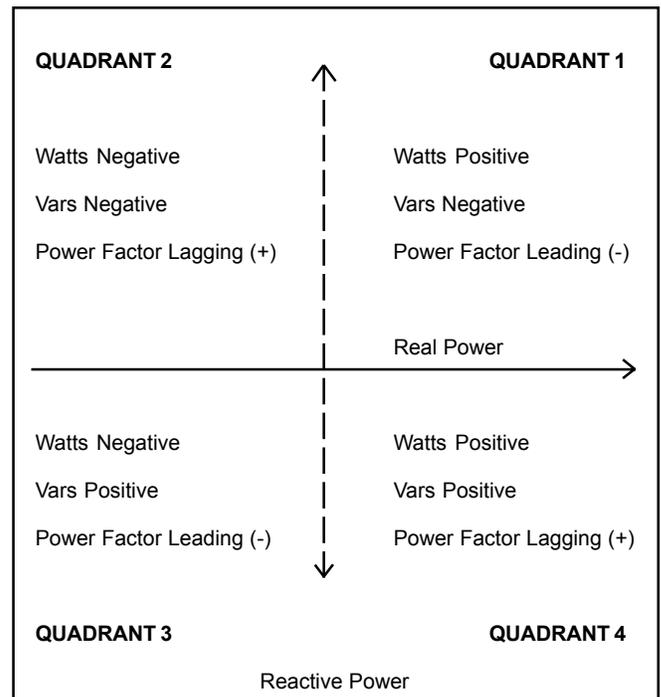

Figure 4-4. Power Quadrants
The Forward watt-hours, Reverse watt-hours, Leading Var-hours, Lagging Var-hours and VA-hours are all displayed as unsigned numbers. However, when the FP-5000 calculates the Net watt-hours and the Net Var-hours, the calculation is based on the sign convention, therefore the Net watt-hours and the Net Var-hours can be positive or negative values. Refer to the Power Quadrant diagram in **Figure 4.4**.
- Induction Motor Load (**Figures 4.4** and **4.5**)
- Capacitive Load (**Figure 4.4**)
• Power Distribution (Figures 4.4 and 4.6)